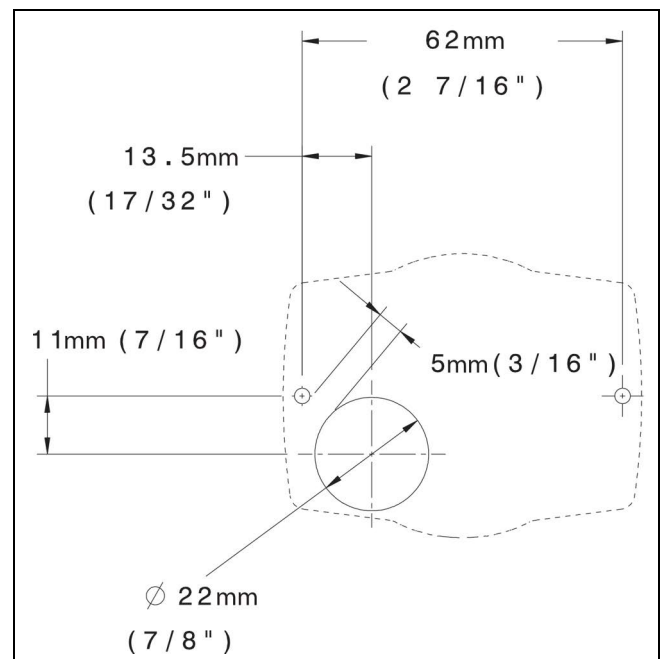

Figure 33. SmarTemp drilling dimensions (not to scale)
- Use the drilling dimensions (fig. 33) to lightly mark the two mounting holes.